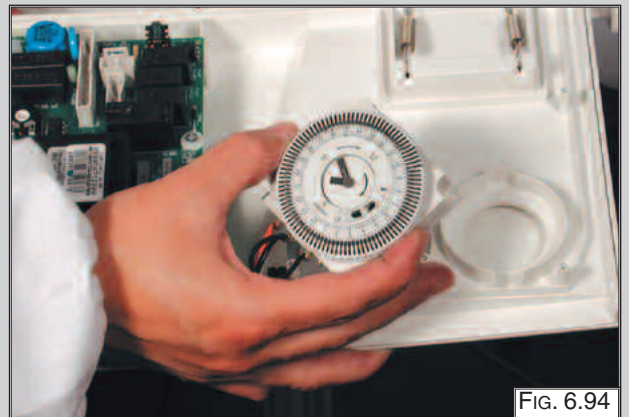

FIG. 6.94
3. Lift out the time clock from the control panel (FIG. 6.94).